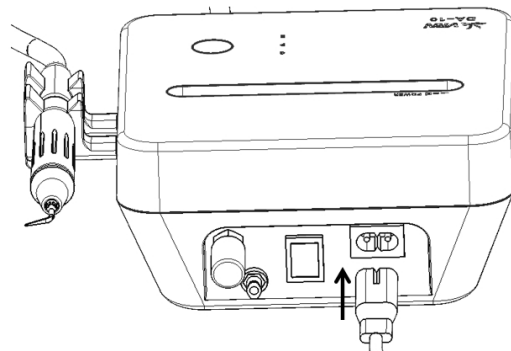

Figure 2.4
6) Power off the device, then connect the output of the power cord to the device, and then connect the input of the power cord to the electric supply (See Figure 2.4).